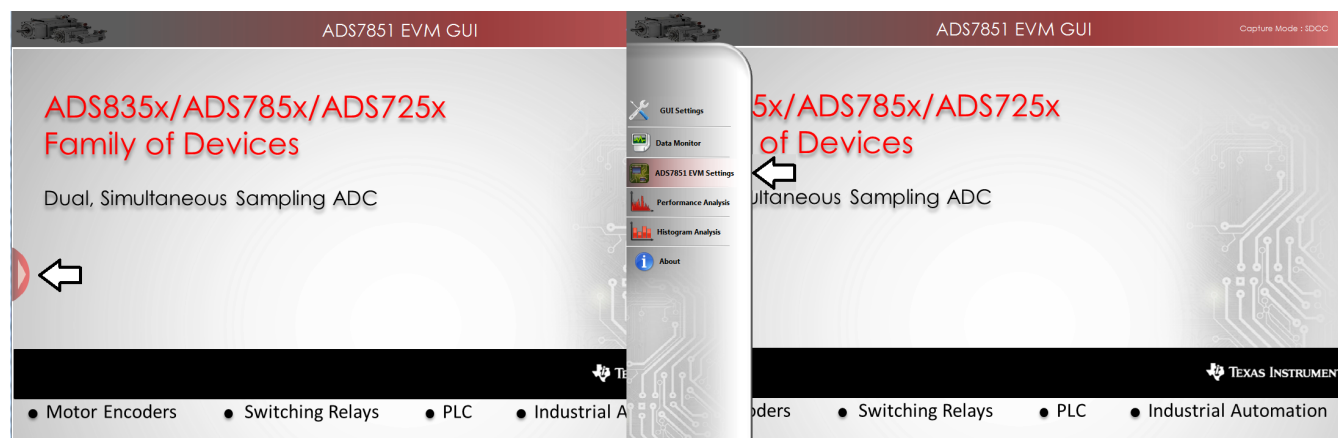

Figure 15. Open the ADS7851EVM Settings Page
1. Load the *ADS7851EVM Settings* page in the GUI. Hover the cursor over the red arrow at the left-center side of the GUI screen; a menu with different GUI pages appears. Click on *ADS7851 EVM Settings*, as shown in Figure 15.